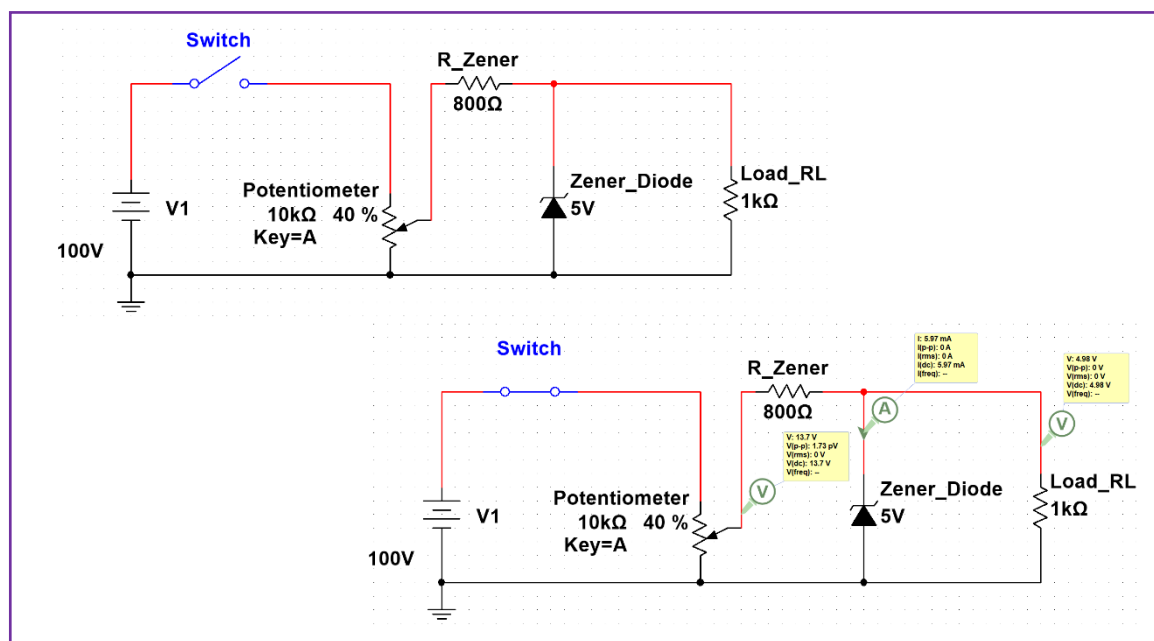

Fig 3.1: Circuit Diagram Showing Zener Diode Based Voltage Regulator
- Make the circuit connection as per the Fig. 3.1.